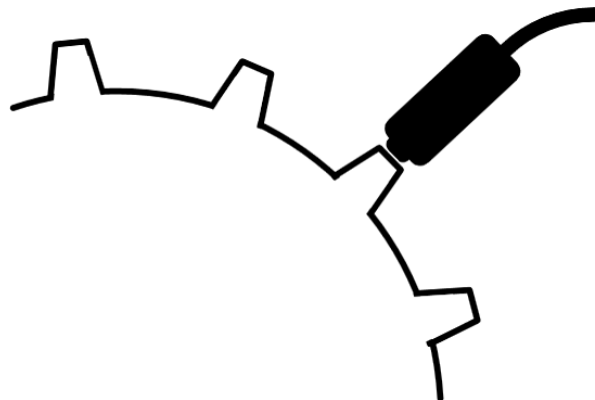
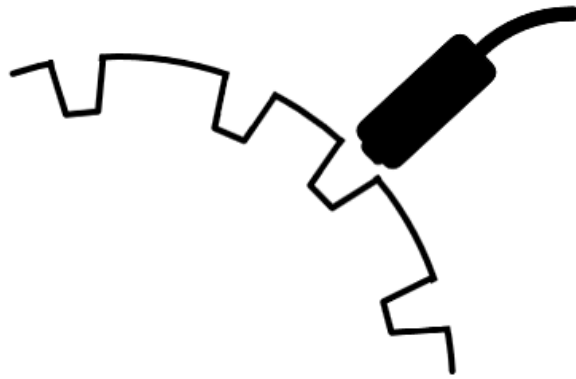
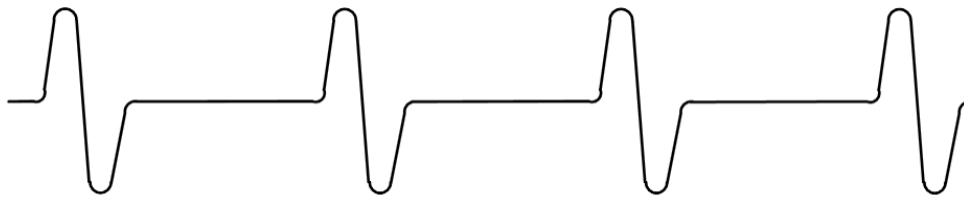
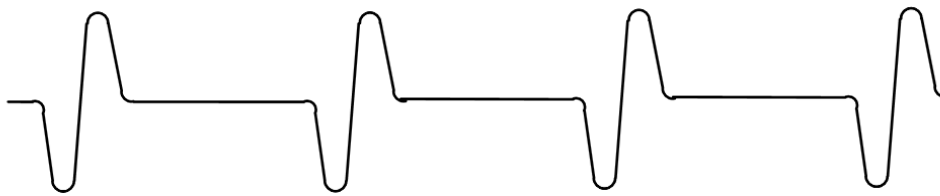

Figure 2. Positive tooth trigger wheel
Figure 3. Negative tooth trigger wheel
Figure 4. Correct signal polarity for VR input circuit
Figure 5. Incorrect signal polarity for VR input circuit
The VR Hall module provides up to six identical VR sensor inputs. A Variable Reluctance (VR) sensor is a standard production automotive speed sensor. It is an electromagnetic sensing device containing a winding of wire around a permanent magnetic core. It relies on the movement of ferrous material (steel teeth) past the tip of the sensor to change the magnetic flux of the sensor. This creates a voltage pulse across the leads of the sensor's wire coil. Figures 4 and 5 below show a typical VR signal with respect to toothed wheels, as shown in figures 2 and 3. The VR signal will go positive as a tooth approaches the sensor tip. The signal will then rapidly swing back through zero precisely at the center of the tooth. As the tooth moves away from the sensor tip the voltage will continue in the negative direction and then return to zero.
Each VR sensor input requires two connections. The VR Hall module pins labeled IN 1+ through IN 6+ are the positive sensor inputs. The negative sensor inputs must be connected module pins labeled IN 1- through IN 6-. The polarity of the sensor connection to the module is critical. The leads of the sensor should be connected such that the positive input of the VR circuit sees the waveform shown in Figure 4. The waveform shown Figure 5 is incorrect, and the VR circuit will not properly respond to this waveform. The rapid zero crossing of the VR signal must be in the negative direction.
The polarity of the physical tooth or gap on the trigger wheel will contribute to the polarity of the voltage pulse from the sensor. Figure 2 demonstrates a positive physical tooth polarity and Figure 3 demonstrates a negative physical tooth polarity. Assuming the lead polarity of a sensor remained the same, one of the configurations would generate the waveform shown in Figure 4, while the other configuration would generate the waveform shown in Figure 5.